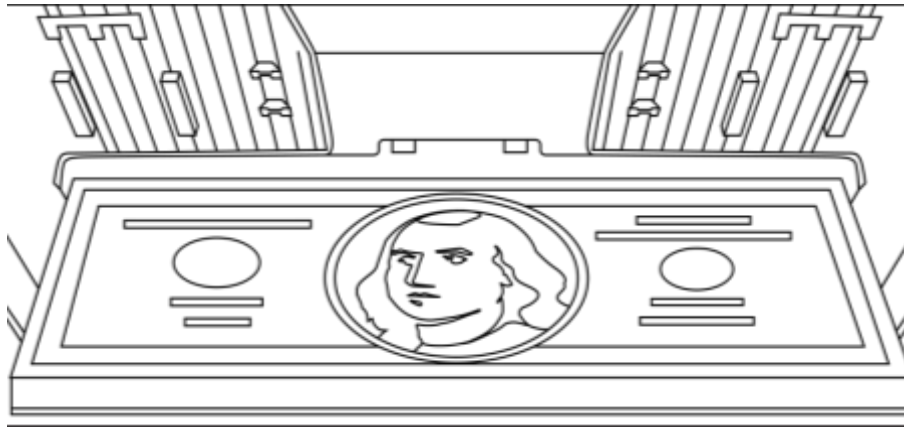

Figure 7
- 2) In the process of counting banknotes, it is necessary to adjust the limit position of the left and right note guiders according to the maximum size of the current counting banknotes, so as to ensure that the banknotes can be accurately identified by relevant sensors. Take US dollars as an example, please organize the banknotes first, and then adjust the limit position of the note guiders according to the largest size of banknotes. Finally, put the banknotes into the hopper for counting, as shown in Figure 7: